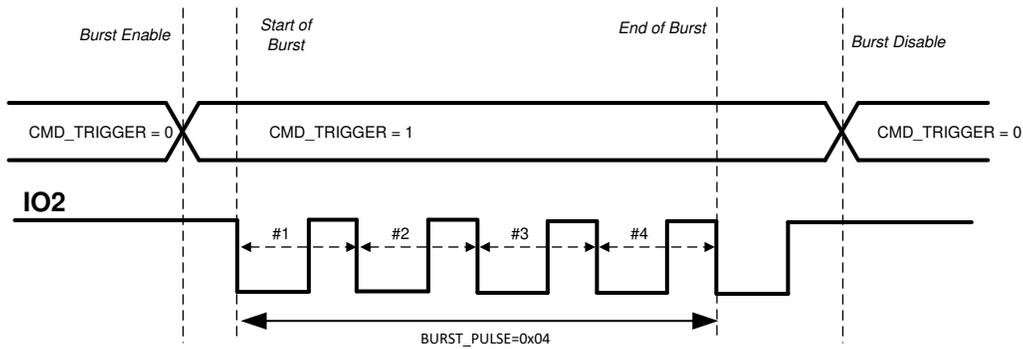

Figure 15. IO_MODE 0 Description
- **IO_MODE = 0:** In this mode, the external clock for the transducer is applied at the IO2 pin and the burst mode is enabled by setting the CMD_TRIGGER in the TOF_CONFIG register through SPI, as shown in Figure 15. The device then expects a clock at IO2 pin to generate pulses on the OUTA/OUTB pins. The start of burst happens from the first falling edge of IO2. The number of pulses are counted by counting falling edge to next falling edge transitions on IO2 once the start of burst is triggered. The end of burst sequence is signaled when the number of pulses defined in BURST_PULSE are sent, or when the CMD_TRIGGER = 0 is set through SPI, whichever occurs earlier. TI recommends that IO2 is held high before burst enable to count the number of pulses correctly. After the start of burst, the state of OUTA and OUTB pins are determined by IO1 and IO2 pins as shown in Table 22. A transition of CMD_TRIGGER from high to low to high again is required to initiate a new burst sequence.